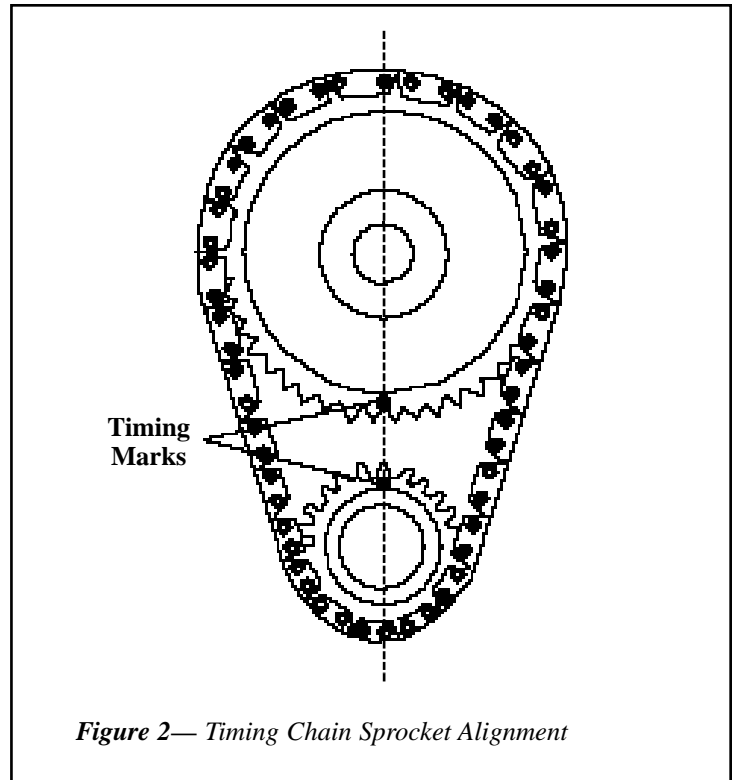

Figure 2— Timing Chain Sprocket Alignment
15. Remove fuel pump and fuel pump pushrod. Rotate engine until timing marks are aligned as in Figure 2.
3. Install camshaft with timing marks lined up as recommended by factory specifications. See Figure 2.
- **PUSHROD AND ROCKER ARM INSTALLATION**—After the cam is installed and timed correctly (see Figure 2), install pushrods, lifters and rocker arms.